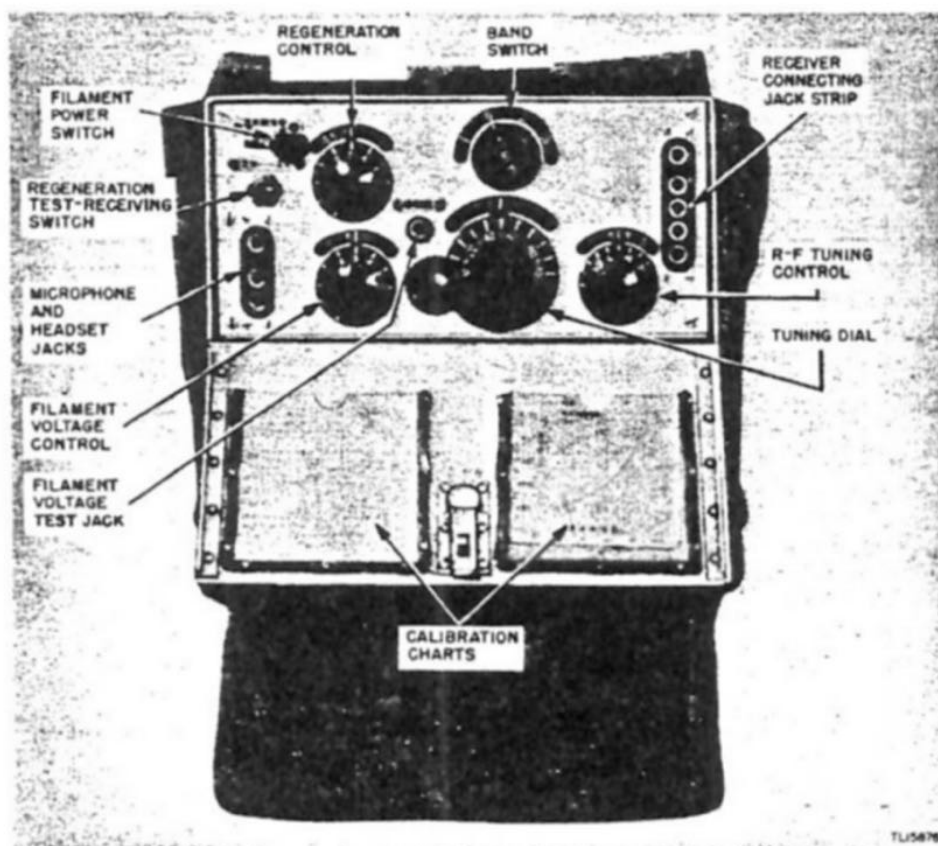

Figure 22. Mark 32 Type Receiver, front view.
(9) To remove the transmitter from operation, place the 送・斷・受 (transmit-off-receive) switch in the 斷 (off) or middle position.
b. Receiver. After the receiver is installed, it is placed into operation as follows (figs. 22, 23, and 24):
(1) Refer to the calibration charts on the inside of the receiver front case cover and determine the band in which the desired frequency is located.